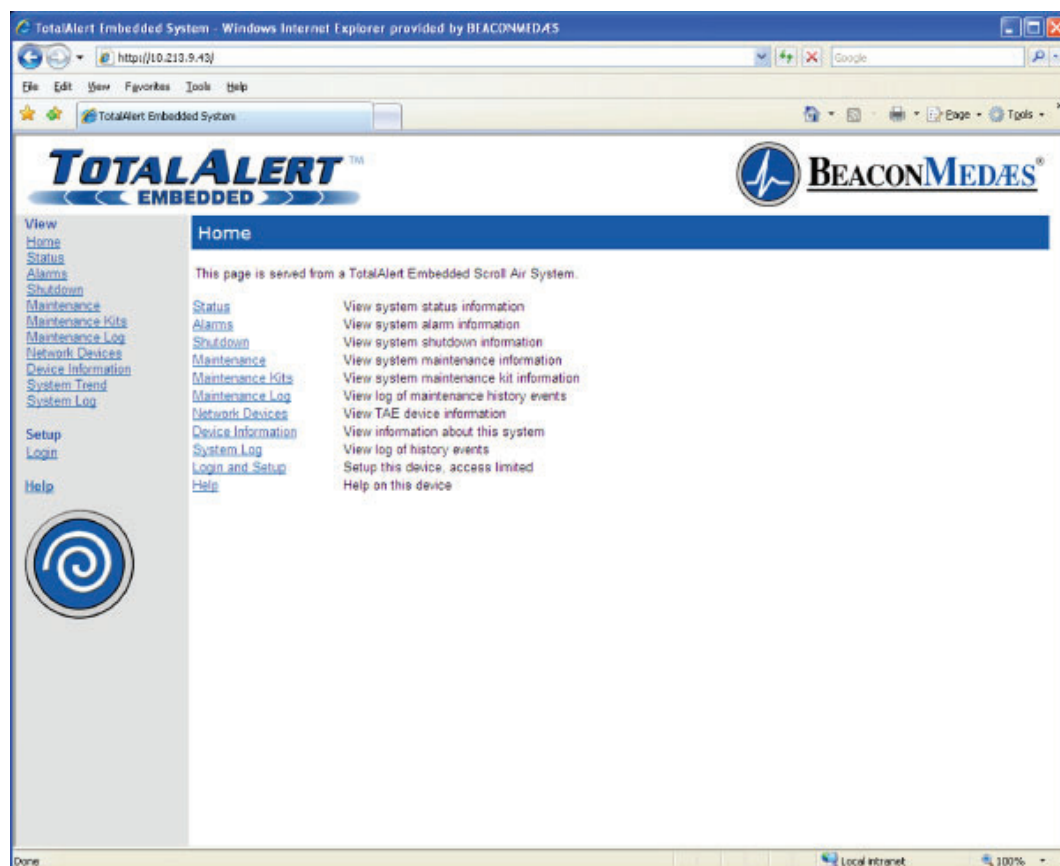

Figure C.29 Typical Laboratory Air System home page
1. Once connected to the TotalAlert Embedded control system, your browser will display the typical home page (Figure C.29).